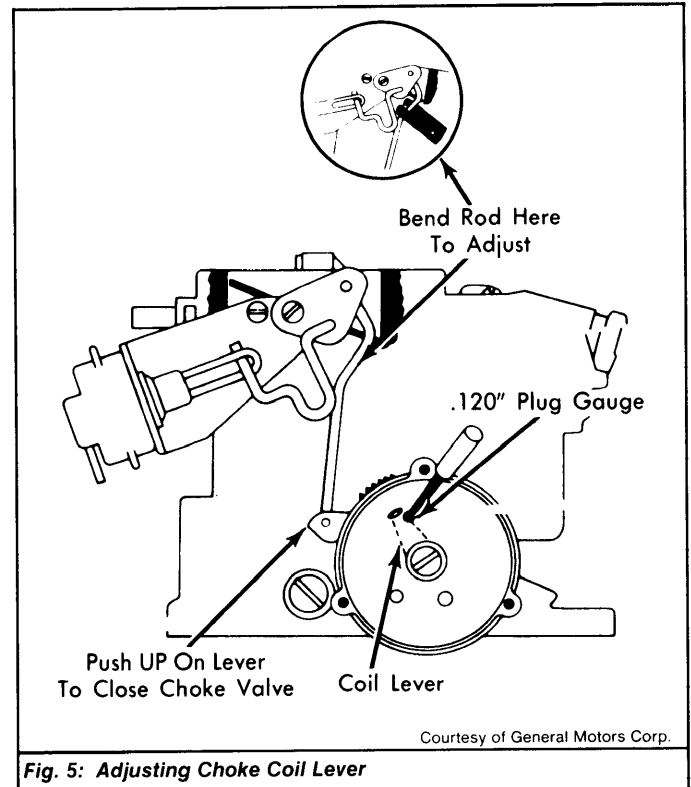

Fig. 5: Adjusting Choke Coil Lever
- 1) Remove thermostatic coil cover assembly. Remove inside baffle plate. Place cam follower on HIGHEST step of fast idle cam. Hold choke valve closed. See Fig. 5.